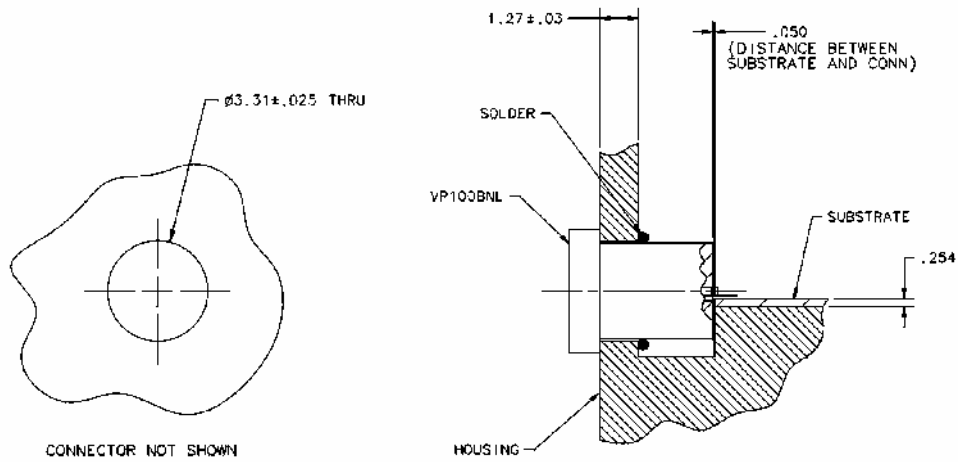

Figure 3. VP100CNL Mounting Hole Dimensions and Assembly Drawing for Thin-wall housing
- c. For a thin-wall housing, place one or two solder preform washers over the shroud inside the housing as shown in Figure 3.